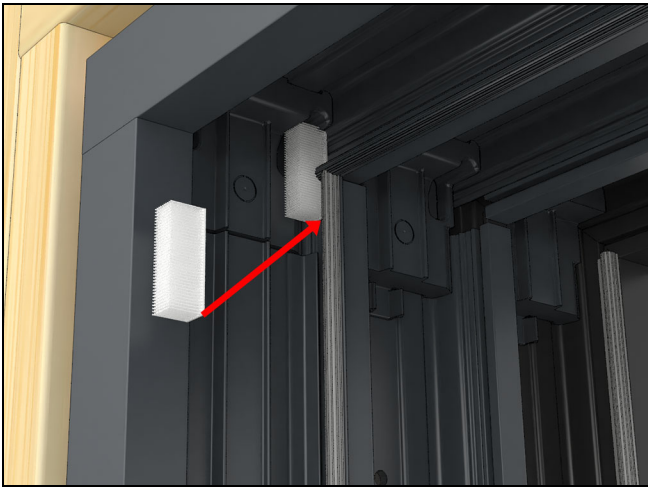

Figure 77
13. On uni-directional locking jambs, apply a dust block at the top of the interior track behind the bulb weather strip. Position the block so it is centered between the joint on the head jamb and jamb weather strips. See Figure 77.